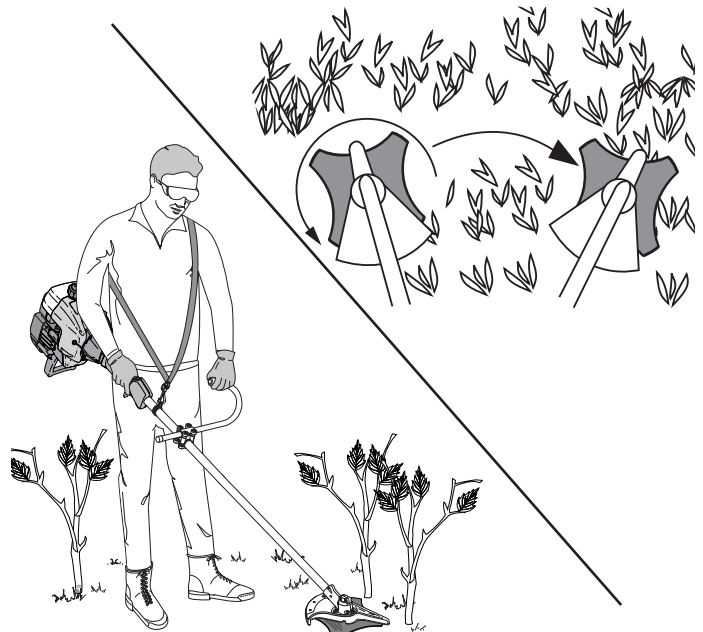

Fig. 30
Before operating the unit with the cutting blade, stand in the operating position (Fig. 30). Refer to *Holding the Trimmer*.
- Swing the unit into material to be cut from your left to your right (Fig. 30)